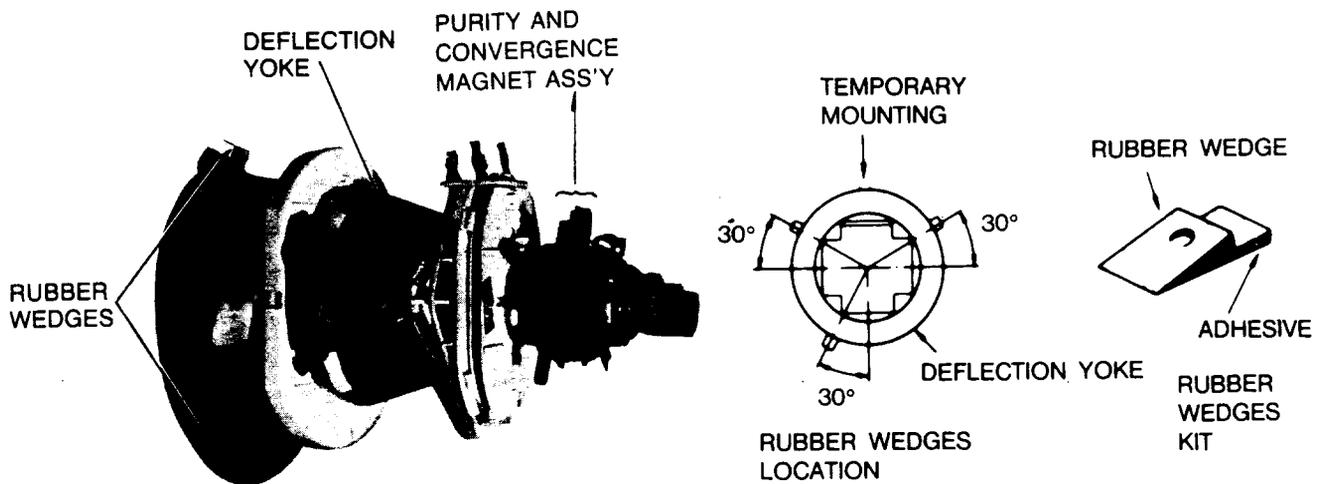

Figure 8
**CAUTION:** Convergence and Purity have been factory aligned. Do not attempt to tamper with these alignments. However, the effects of adjacent receiver components, or replacement of picture tube or deflection yoke may require the need to readjust purity and convergence. Convergence magnet assembly and rubber wedges need mechanical positioning following the figure 8. Before attempting any convergence adjustments this receiver should be operated for at least fifteen minutes. If adjustment is required the adjustments should be made in the following sequence.
2. Adjust DY to obtain a better convergence in the circumference by orbital movement of the front of the yoke, then secure the DY in appropriate position by placing the wedges as illustrates in figure 8. Tighten screw holding the DY. Stick 3 adhesive tapes on wedges as shown in figure 8.